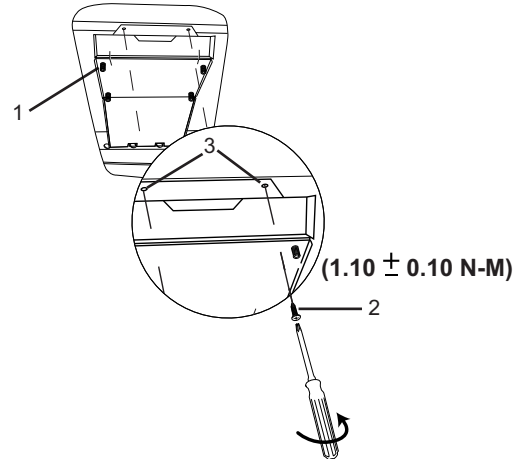

FIGURE 54
- 2.) WITH THE TOP DVD MOUNTING BRACKET TABS IN-PLACE, PUSH THE REAR SIDE OF THE BRACKET (1) UPWARD AND USE THE SUPPLIED TWO SELF-DRILLING SCREWS (2) TO SECURE THE BRACKET TO THE ROOF BOW (3). (SEE FIGURE 54)